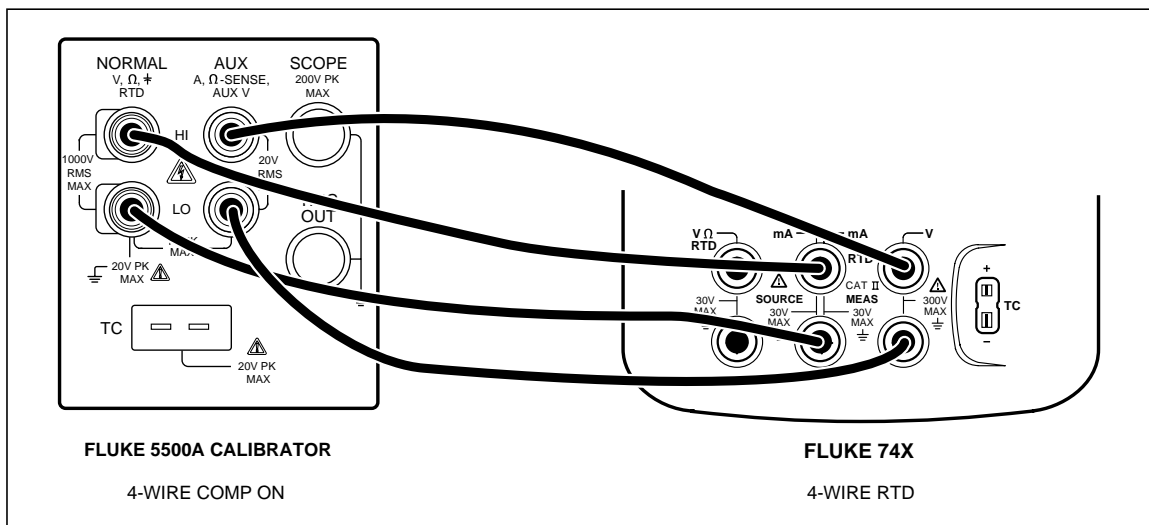

Figure 12. Four-Wire RTD Measure Verification Connections
1. Connect the UUT to the 5500A as shown in Figure 12. Use a four-wire connection and 4-wire compensation.
2. Set the UUT to the RTD Measure function, Pt100 (385), ITS-90 scale, and 4-Wire termination.
3. Set the 5500A to RTD, Pt100 (385) at -180 °C, ITS-90 scale, and comp four-wire. Set the 5500A to [Operate].